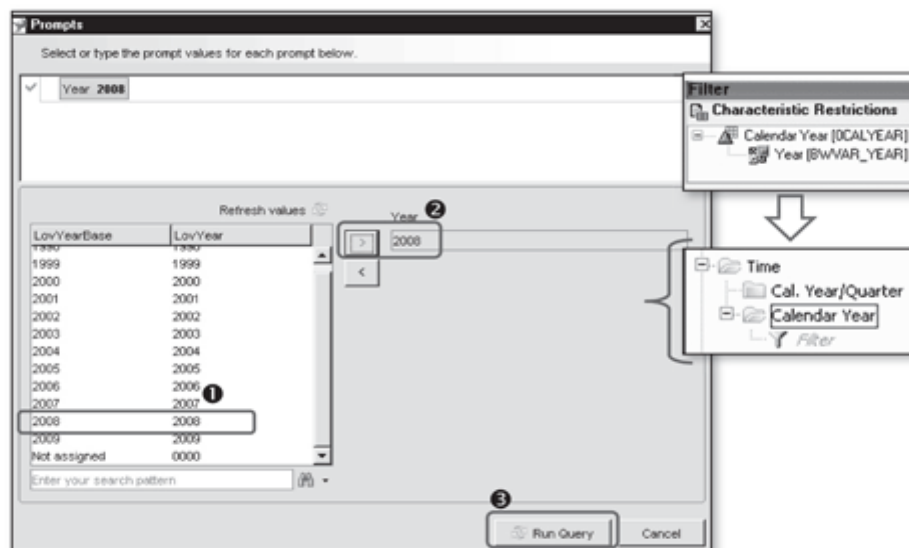

Figure 13.27 Prompts in WebI Query
7. After you execute this query, you get a Prompts screen for year (Figure 13.27). This is due to the filter that is applied to calendar year in the universe. The filter in the universe is derived from the BEx variable that is a user entry, single value, or mandatory variable. As shown in Figure 13.27, select 2008 (❶), click on the arrow button to apply the value (❷), and then click on Run Query (❸) to submit the selected filter value and proceed with the execution of the query.